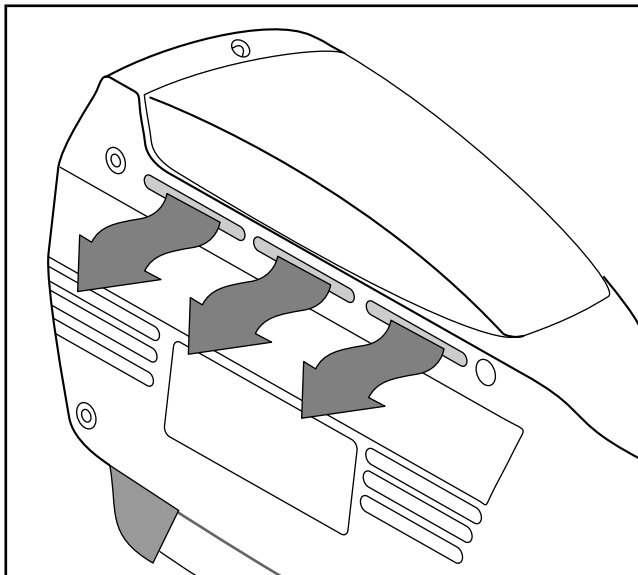

Fig. 9
7. Batteries emit explosive gases while being charged. Do not obstruct the vents on the battery case (Fig. 9).